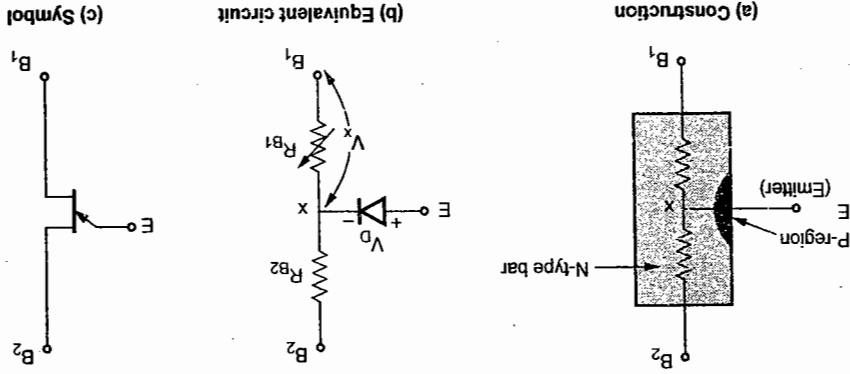

Fig. 2.6.1 Unijunction transistor
- Fig. 2.6.1 shows the construction and equivalent circuit of UJT. Observe that emitter and N-type bar forms a PN junction.
- As shown in Fig. 2.6.1 (b), the internal resistance of the bar is represented by R_{B1} and R_{B2} . Note that R_{B1} is variable since it changes in on and off states of UJT.
- When $V_x = \eta V_{BB}$, holes from heavily doped emitter are injected in the N-type bar. Because of these large number of holes, resistance R_{B1} reduces. This causes voltage V_x to drop. (Refer Fig. 2.6.1) (b)). At the same time emitter current I_E increases further. This forms a negative resistance region as shown in Fig. 2.6.3. It is the region between point A and B of the characteristic.